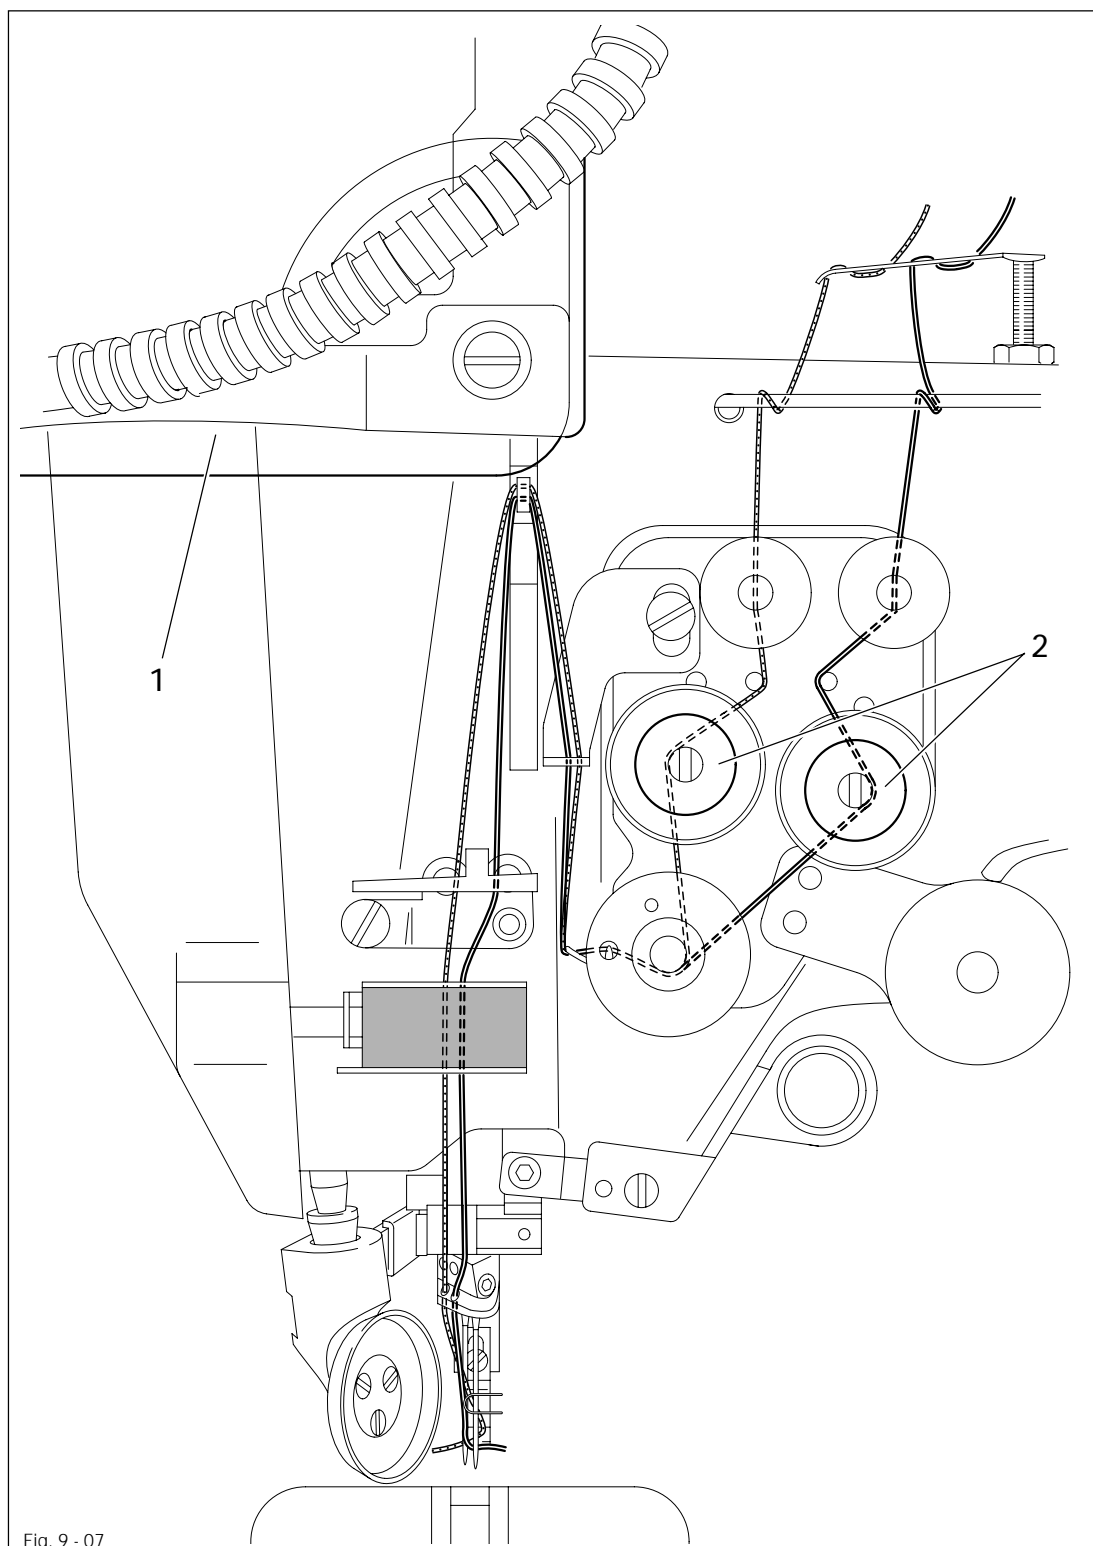

Fig. 9-07
- Thread both needle threads as shown in Fig. 9-07.